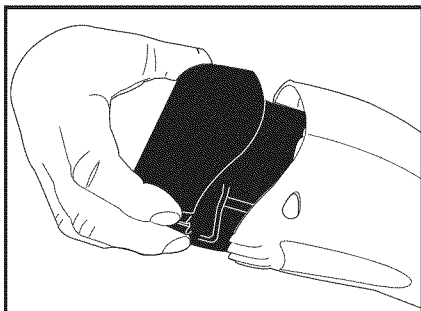

Figure 6
1. Depress the spring-loaded buttons on both sides of the battery simultaneously. (see figure 6)